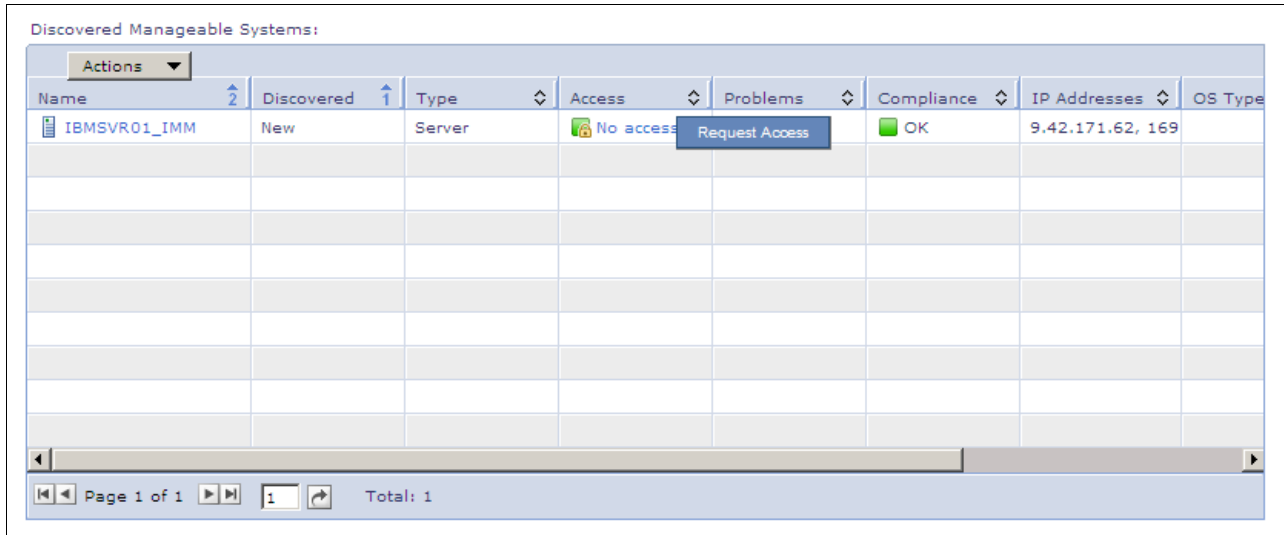

Figure 9-22 Request Access option
10. To authenticate to the IMM, right-click **No access** under the Access column and click **Request Access**, as shown in Figure 9-22.